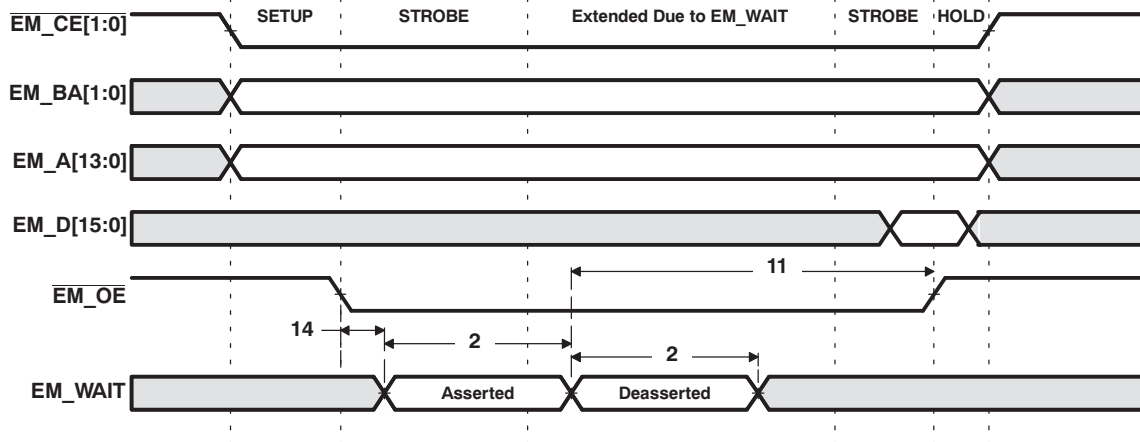
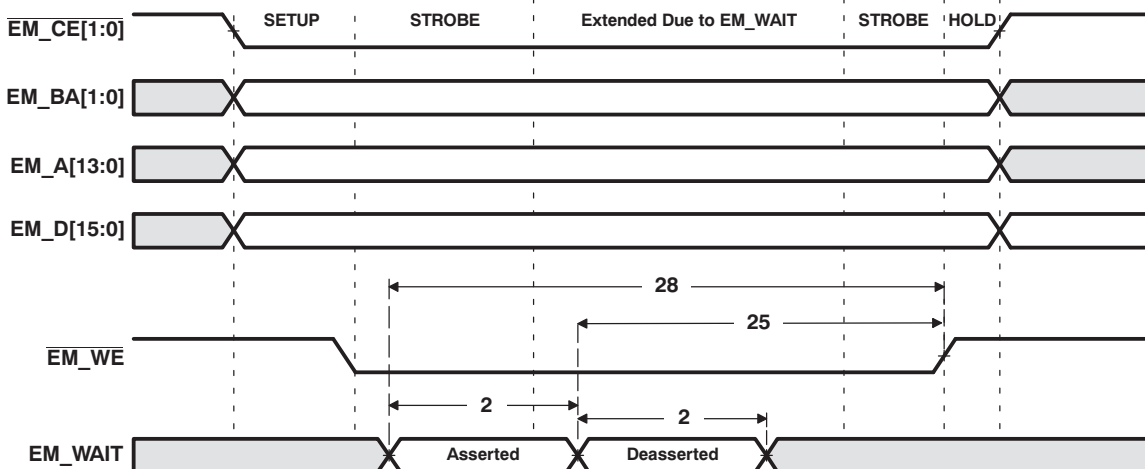

Figure 5-16. EM\_WAIT Read Timing Requirements
Figure 5-17. EM\_WAIT Write Timing Requirements
(1) E = PLLC1 SYSCLK2 period in ns. SYSCLK2 is the EMIF peripheral clock. SYSCLK2 is one-fourth the PLLC output clock. For example, when PLLC output clock = 432 MHz, E = 9.259 ns. See Section 3.5 for more information.
(2) Setup before end of STROBE phase (if no extended wait states are inserted) by which EM\_WAIT must be asserted to add extended wait states. Figure 5-16 and Figure 5-17 describe EMIF transactions that include extended wait states inserted during the STROBE phase. However, cycles inserted as part of this extended wait period should not be counted; the 4E requirement is to the start of where the HOLD phase would begin if there were no extended wait cycles.